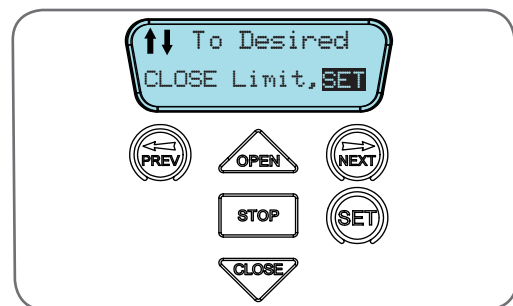

Fig 11.2
- c. Turn on the power to the opener. The controller will go through a start up sequence. After a short delay the MAIN SCREEN (**Fig. 11.2**) will be displayed. If this is the first time the GDO-10V3L2 is being used, the MAIN SCREEN should enter into limit set mode and the blue close LED will be flashing. If the display shows that an input is active, then rectify the situation before continuing with the procedure for setting the travel limits. Press and hold the CLOSE button - the door should start closing.